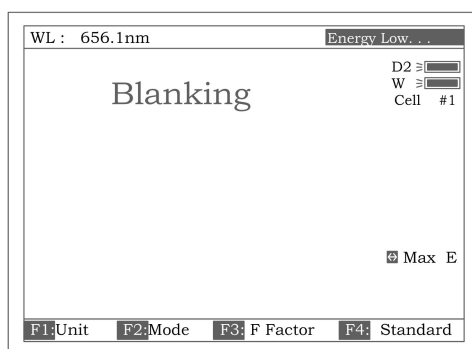

Fig 8
Note 1. If the reference solution is too thick, “Energy Low...” will appear following the “Blanking...” on the screen (Fig 8). If “Energy too Low...” appears following the “Blanking...”, the test will be paused and “Warning...” will appear on the screen. (Fig 9).
2. If no automatic changer installed “cell #1” and “Max E” will disappear in Fig8